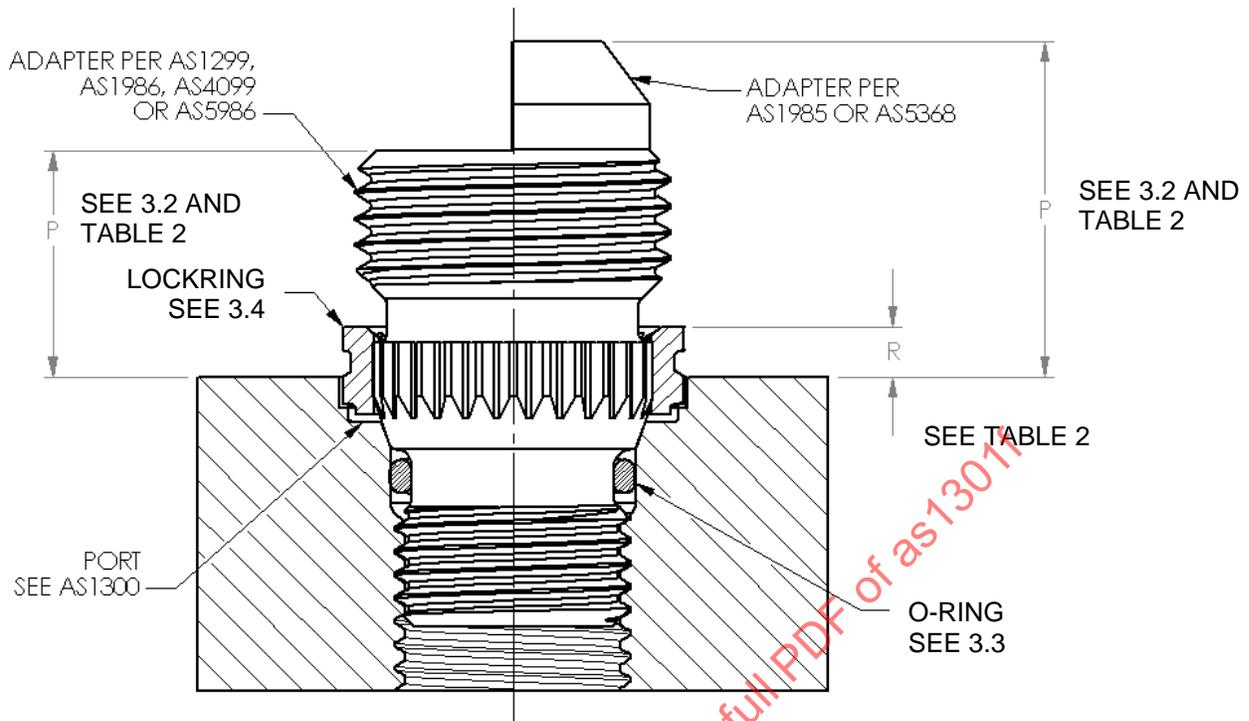

Figure 1 - Installed adapter
Correction of Figure 1 references. Replacement of Installation Torque values of AS5368 fittings, add user definition requirement if torque values desired are other than those listed in Table 3B. Addition of equivalent alternate tooling numbers in Table 3B, and addition of individual wrench and drive tool part numbers. Update 5.2.4 to recognize use of other sealants/primers and discourage use of Zinc Chromate primer. Update 5.2.5 for installation torque limits.
- 3.2 Adapters per AS1299, AS1985, AS1986, AS4099, AS5368, and AS5986 installed per this document into ports per AS1300 shall have a stand-off per dimension "P" in Figure 1 and Table 2.